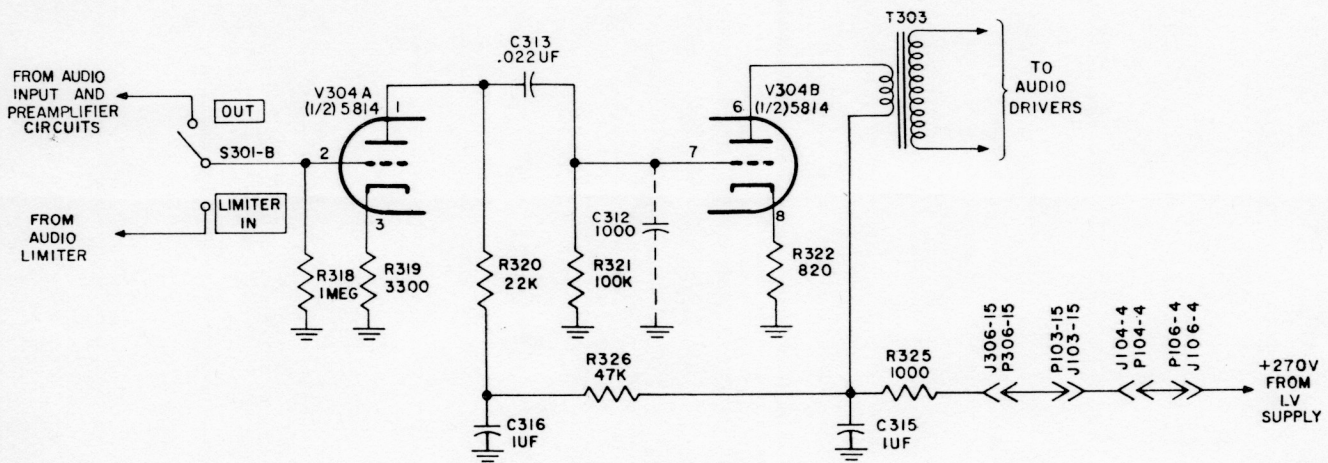

Figure 4-9. Audio Amplifier, Simplified Schematic Diagram
d. AUDIO AMPLIFIER. - (Refer to figure 4-9.) The audio signal from S301B is applied to the grid of amplifier V304A, 1/2 of a 5814. Capacitor C313 couples the plate of the amplifier to the grid of audio amplifier V304B. The output of amplifier V304B is coupled to the grids of the push-pull audio driver by transformer T303. For communications service, where it is desired to limit the high-frequency audio response, capacitor C312 must be connected between the grid of V304B and ground. (See paragraph 2-4C for the procedure to be followed in making this connection.) For VOR service, this connection must not be made, since the audio frequency instantaneous response must extend beyond the highest frequency of the 9960 F-M subcarrier.